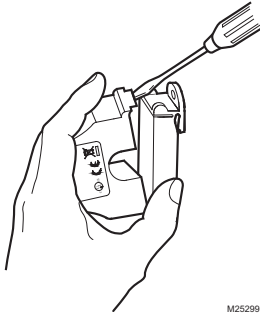

Fig. 6. Opening with a screwdriver
Pressing down on the two (2) side tabs and swinging the cover open opens the split core current switch as shown in Fig. 5. Lifting up the latch with a flat-tip screwdriver as shown in Fig. 6 can also open the unit. Press down firmly on the cover to close the current switch. An audible "click" will be heard as the tab slides over the tongue on the base.